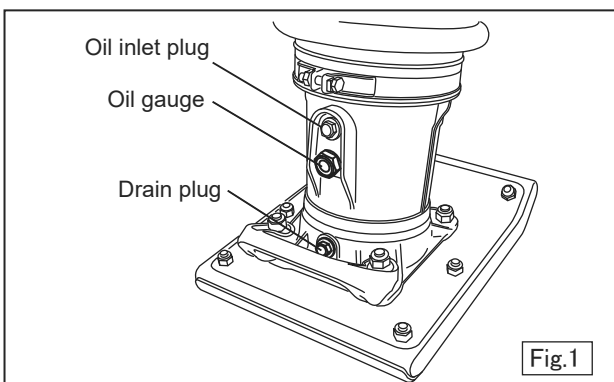

Fig.1
4. Check the main body oil through the oil gauge on the protection sleeve on level ground. (Fig.1)